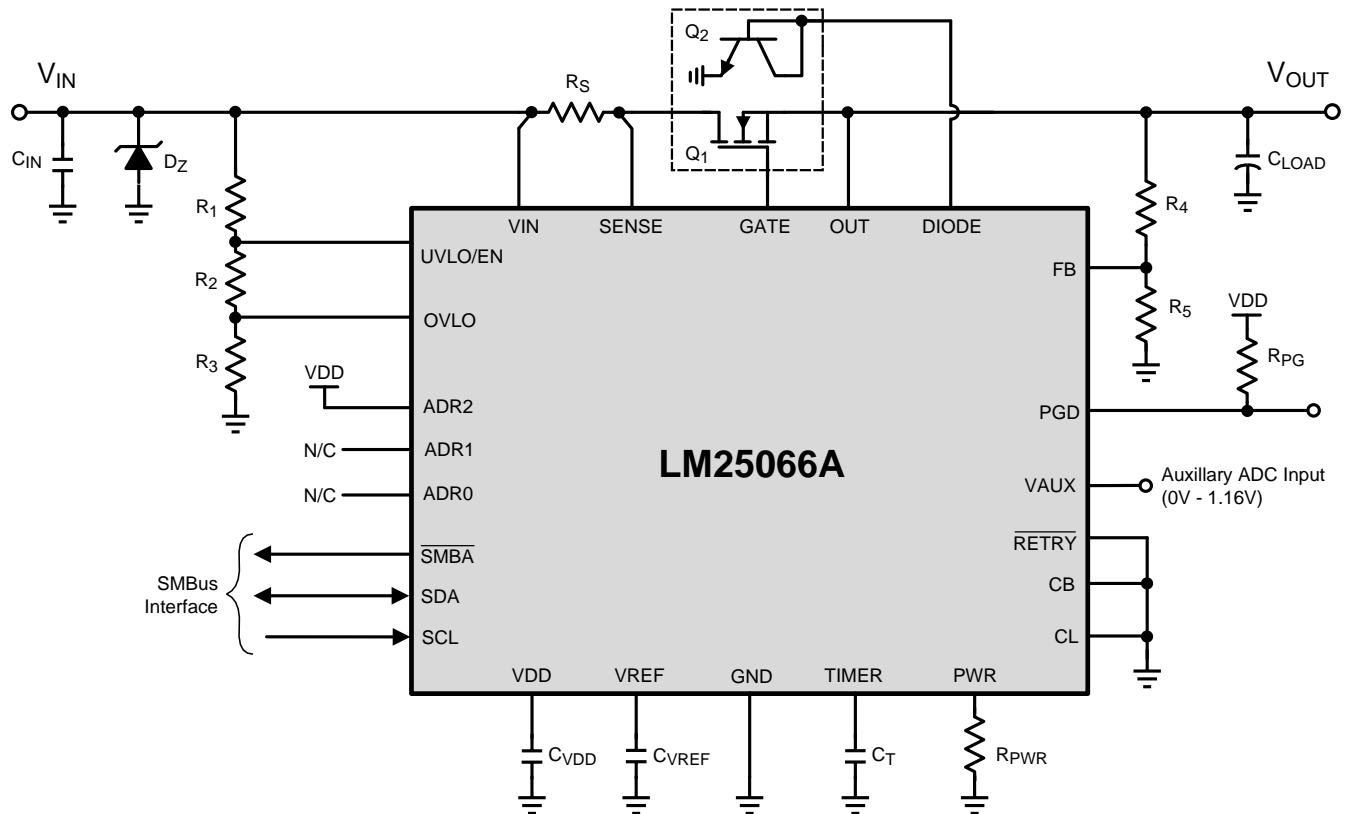
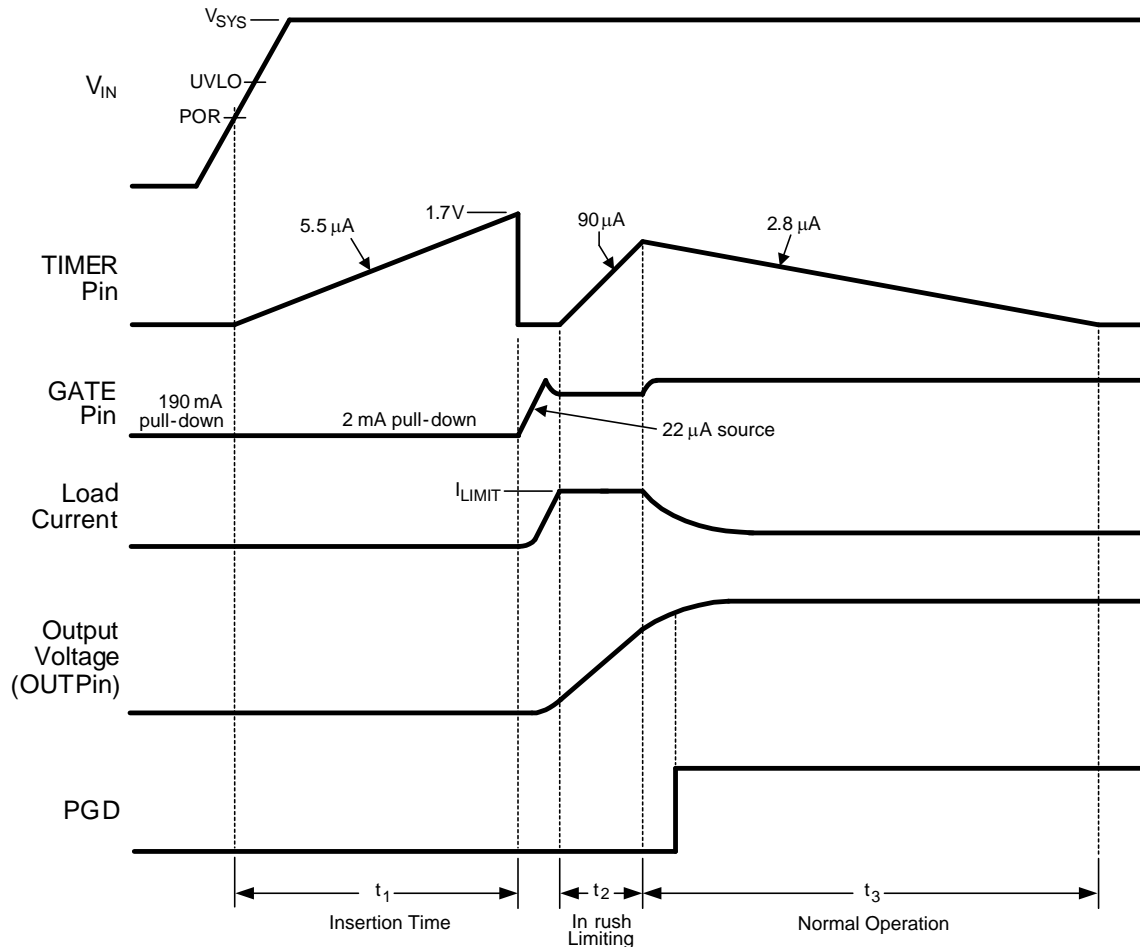

Figure 32. Typical Application Circuit
Figure 33. Power Up Sequence (Current Limit Only)
The V_{IN} operating range of the LM25066A is +2.9V to +17V with transient capability to +24V. Referring to Figure 32 and Figure 33, as the voltage at V_{IN} initially increases, the external N-channel MOSFET (Q₁) is held off by an internal 190 mA pull-down current at the GATE pin. The strong pull-down current at the GATE pin prevents an inadvertent turn-on as the MOSFET's gate-to-drain (Miller) capacitance is charged. Additionally, the TIMER pin is initially held at ground. When the V_{IN} voltage reaches the POR threshold, the insertion time begins. During the insertion time, the capacitor at the TIMER pin (C_T) is charged by a 5.5 μA current source and Q₁ is held off by a 2 mA pull-down current at the GATE pin regardless of the input voltage. The insertion time delay allows ringing and transients at V_{IN} to settle before Q₁ is enabled. The insertion time ends when the TIMER pin voltage reaches 1.7V. C_T is then quickly discharged by an internal 1.9 mA pull-down current. The GATE pin then switches on Q₁ when the input voltage, V_{SYS}, exceeds the UVLO threshold. If V_{SYS} is above the UVLO threshold at the end of the insertion time, Q₁ switches on at that time. The GATE pin charge pump sources 22 μA to charge the gate capacitance of Q₁. The maximum voltage at the GATE pin with respect to ground is limited by an internal 18.8V zener diode.
As the voltage at the OUT pin increases, the LM25066A monitors the drain current and power dissipation of MOSFET Q₁. Inrush current limiting and/or power limiting circuits actively control the current delivered to the load. During the inrush limiting interval (t₂ in Figure 33), an internal 90 μA fault timer current source charges C_T. If Q₁'s power dissipation and the input current reduce below their respective limiting thresholds before the TIMER pin reaches 1.7V, the 90 μA current source is switched off and C_T is discharged by the internal 2.8 μA current sink (t₃ in Figure 33). The PGD pin switches high when the voltage at FB exceeds its rising threshold of 1.167V.
A charge pump provides the voltage at the GATE pin to enhance the N-Channel MOSFET's gate. During normal operating conditions (t_3 in Figure 33), the gate of Q_1 is held charged by an internal 22 μA current source. The voltage at the GATE pin (with respect to ground) is limited by an internal 18.8 V zener diode. See the graph "GATE Pin Voltage" provided previously. Since the gate-to-source voltage applied to Q_1 could be as high as 18.8 V during various conditions, a zener diode with the appropriate voltage rating must be added between the GATE and OUT pins if the maximum V_{GS} rating of the selected MOSFET is less than 18.8 V. The external zener diode must have a forward current rating of at least 190 mA. When the system voltage is initially applied, the GATE pin is held low by a 190 mA pull-down current. This helps prevent an inadvertent turn-on of the MOSFET through its drain-gate capacitance as the applied system voltage increases.
During the insertion time (t_1 in Figure 33), the GATE pin is held low by a 2 mA pull-down current. This maintains Q_1 in the off-state until the end of t_1 , regardless of the voltage at V_{IN} or UVLO. Following the insertion time, during t_2 in Figure 33, the gate voltage of Q_1 is controlled to keep the current or power dissipation level from exceeding the programmed levels. While in the current or power limiting mode, the TIMER pin capacitor is charging. If the current and power limiting cease before the TIMER pin reaches 1.7V, the TIMER pin capacitor
A) Insertion Delay -Upon applying the system voltage (V_{SYS}) to the circuit, the external MOSFET (Q_1) is held off during the insertion time (t_1 in Figure 33) to allow ringing and transients at V_{SYS} to settle. Since each backplane's response to a circuit card plug-in is unique, the worst case settling time must be determined for each application. The insertion time starts when V_{IN} reaches the POR threshold, at which time the internal 5.5 μA current source charges C_T from 0V to 1.7V. The required capacitor value is calculated from: